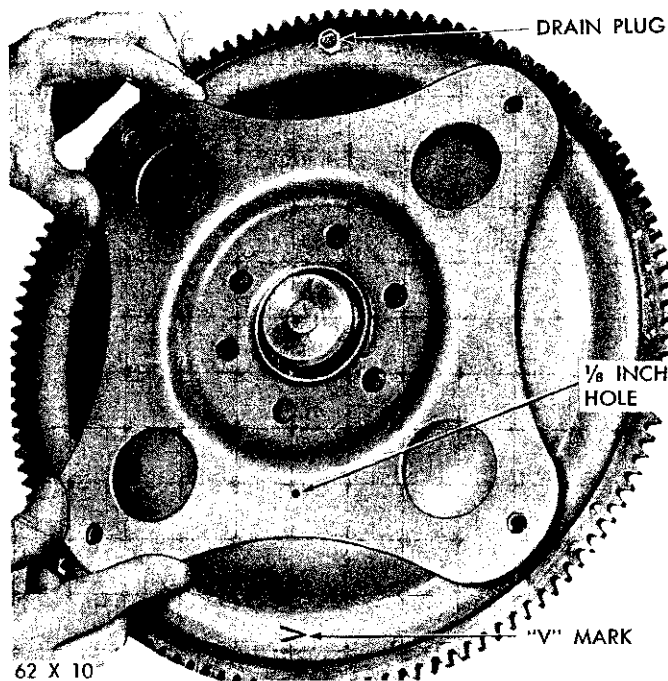

Fig. 48—Converter and Drive Plate Markings
(3) Rotate the converter so mark on converter (made during removal) will align with mark on drive plate. The offset holes in the plate are located next to the $\frac{1}{8}$ inch hole in the inner circle of the plate. A stamped V mark identifies the offset hole in the converter front cover (Fig. 48). Carefully work the transmission assembly forward over the engine block dowels with the converter hub entering the crankshaft opening.
(4) After the transmission is in position, install the converter housing bolts and tighten 25 to 30 foot-pounds torque.
(5) Install and tighten the two lower drive plate to converter bolts and tighten to 270 inch-pounds torque.
(6) Install the starting motor and connect the battery ground cable.
(7) Rotate the engine with the Remote Control Switch and install the other two drive plate to converter bolts. Tighten bolts to 270 inch-pounds torque.
(8) Install the crossmember and tighten attaching bolts securely. Lower the transmission so the extension housing is aligned and rests on the insulator. Install bolts and tighten to 35 foot-pounds torque.